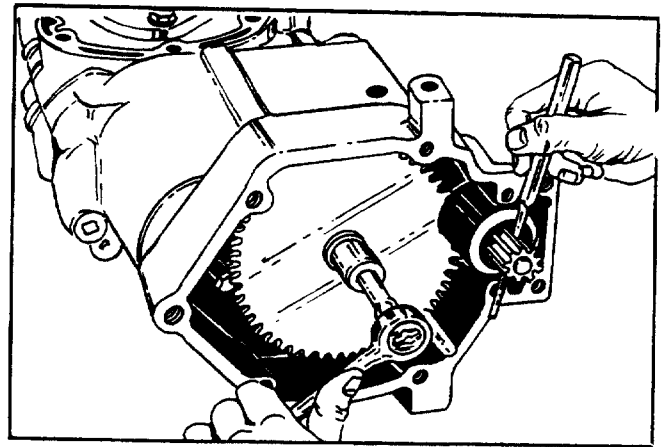

FIGURE 9.
- 3.11 If the reduction gear is found to be damaged it can be removed without taking out the pinion gear assembly. After taking out the retainer screw, lift gear as far as possible and then tip up on side opposite the pinion. See figures 9 and 10, sect. 2.202. The gear can now be removed and a replacement can be installed.